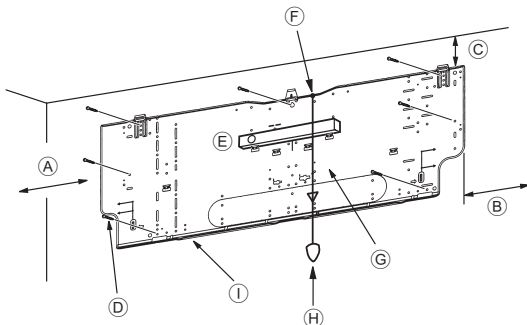
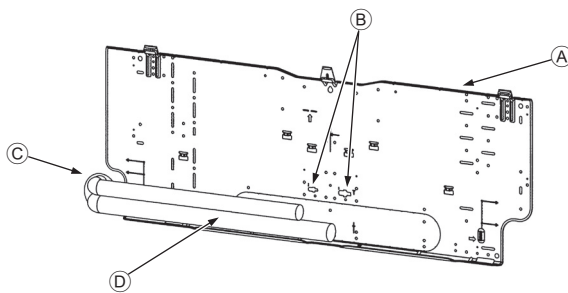

Fig. 3-4
Fig. 3-5
■ PKFY-P-NKMU-E2 (Fig. 3-4)
- (A) Min. 120 mm, 4-11/16 inch
- (B) Min. 220 mm, 8-11/16 inch
- (C) Min. 70 mm, 2-3/4 inch
- (D) Fixing screws (4 × 25) ②
- (E) Level
- (F) Fasten a thread to the hole.
- (G) Place the level against the horizontal reference line of the mount board and mount so that it is level. Hang a weight from the thread and align with ▽ EPK of the mount board to permit leveling.
- (H) Weight
- (I) Mount board ①
3.3. When embedding pipes into the wall (Fig. 3-5)
- (A) Mount board ①
- (B) Reference marking for flare connection
- (C) Through hole
- (D) On-site piping